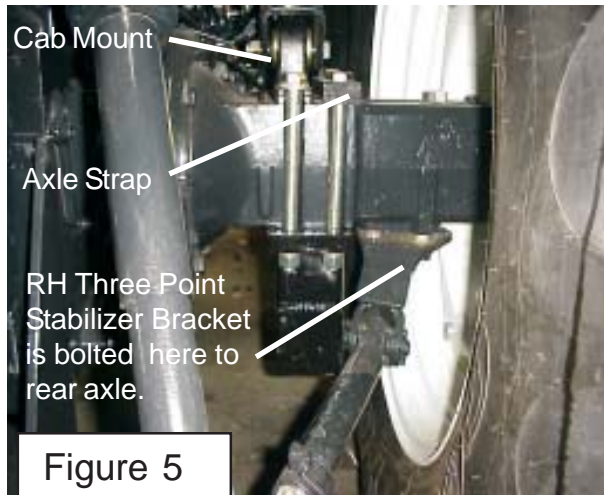

Figure 5
4. Install Frame Rail to Tractor. The frame rail (Item 1 Figure 1) will be slid under the tractor on the RH side (See Figure 5). Make certain the plastic plugs have been removed from tractor frame, two at the front bolster and two mid frame. Do NOT tighten the frame mounting bolts until all the bolts have been installed as frame will need to be moved slightly for alignment as the bolts are installed. The frame can be installed by balancing the frame on a floor jack, if using this method it is recommended two people perform this to prevent the frame from falling. Raise the frame up to the tractor frame (See Figure 5),